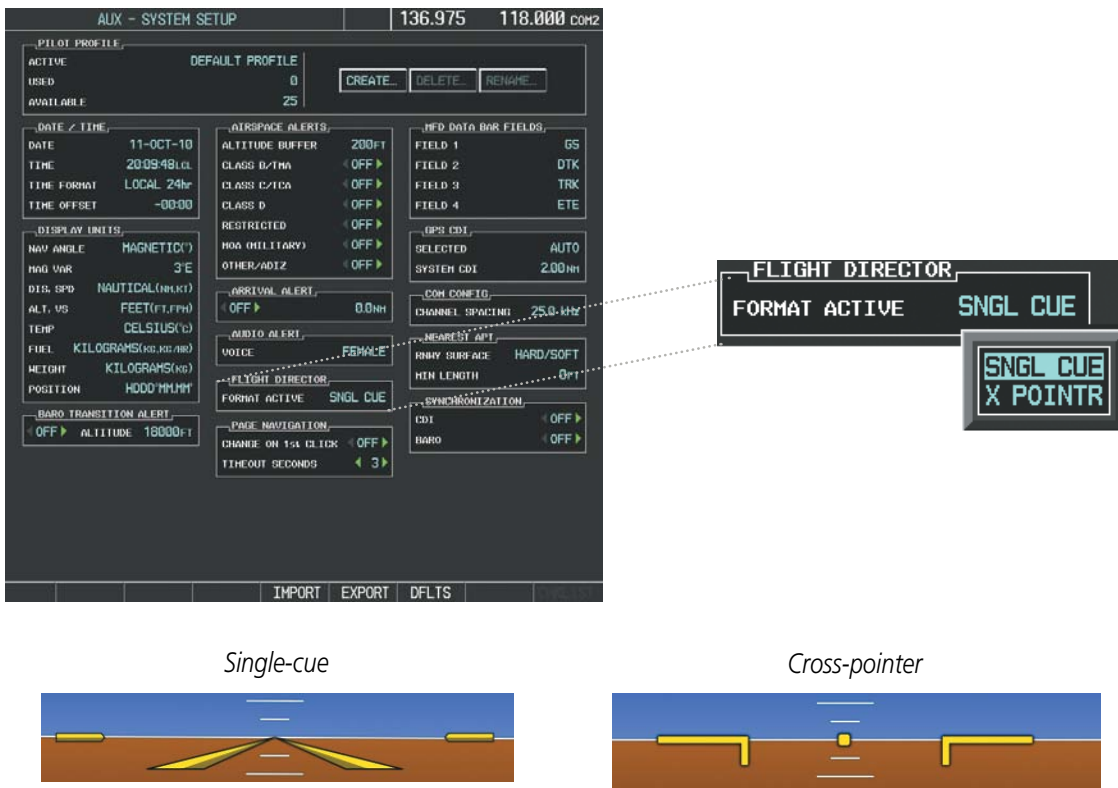

Figure 2-8 Flight Director Format (AUX - System Setup Page)
The yellow symbolic aircraft on the Attitude Indicator changes appearance based on selection of AFCS flight director Command Bar format (see the AFCS Section for details). Both PFDs show the same Command Bar format and Aircraft Symbol. The Command Bar format (single-cue or cross-pointer) may be selected from the AUX - System Setup Page Figure 2-8.
- 5) Select the **SNGL CUE** option to display Command Bars as a single cue (Figure 2-8).
Select the **X POINTR** option to display Command Bars as a cross pointer (Figure 2-8).